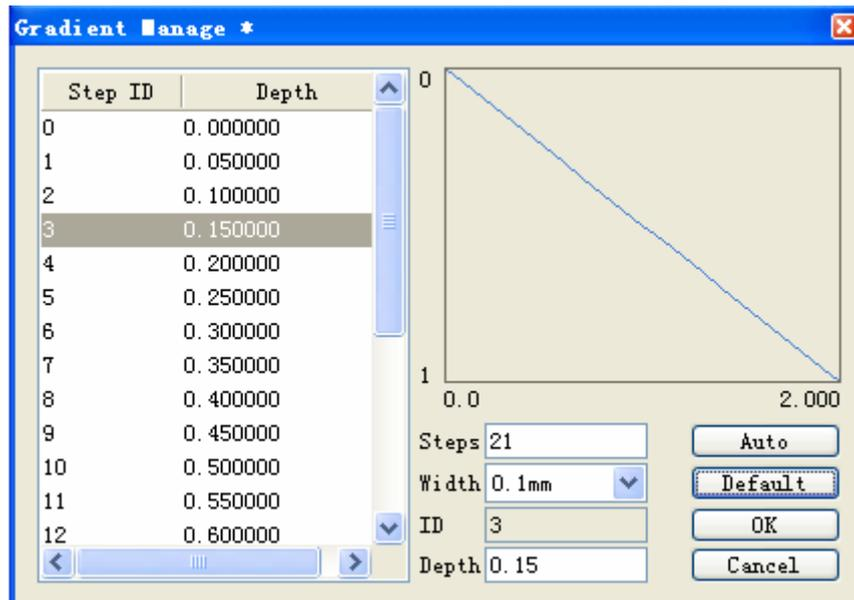

Figure 6-24 Set Slope
- Like the Figure 6-24 shows to set the parameters for Sculpturing slope. The rank number is 21, the rank width is 0.025 mm. Set the 0 rank depth as 0.0, set the last rank depth as 1.0, click the auto insert values button, the other values will generate automatically. Click OK and exit the dialog.